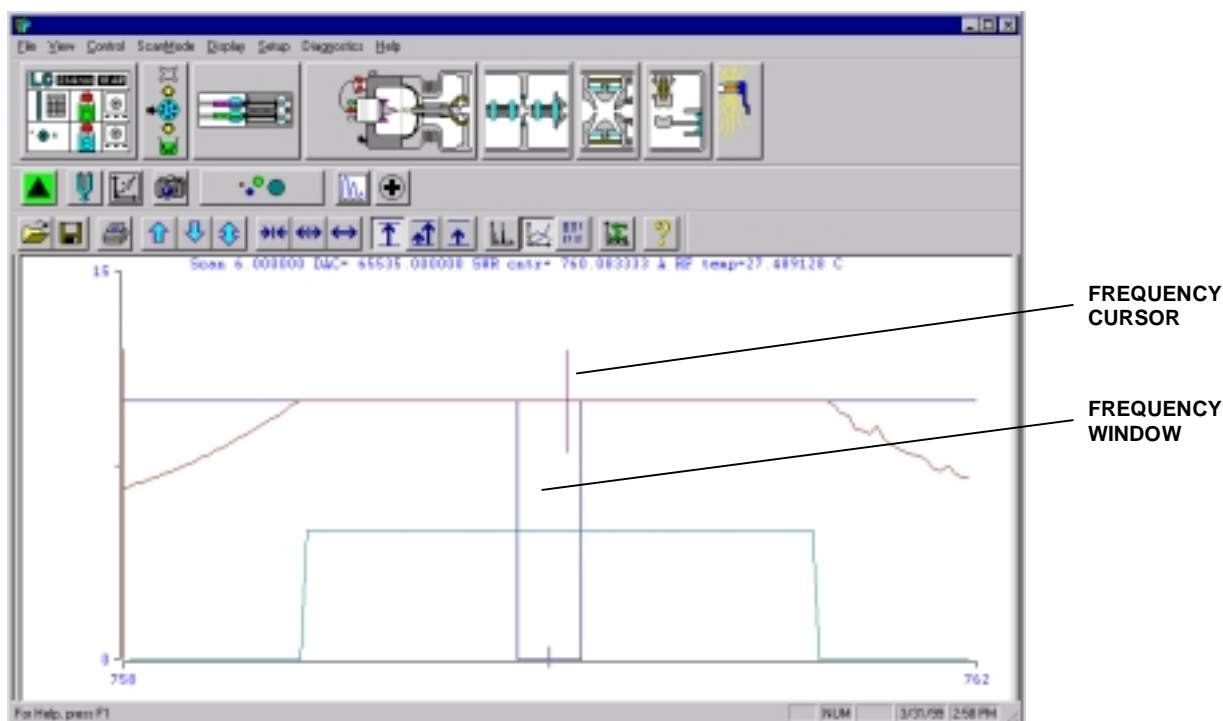

Figure 5-7. Graph view for ring electrode RF voltage tuning
- b. Start the ring electrode RF frequency tune program. The Graph view displays several tune functions, a frequency cursor, and a frequency window. See Figure 5-7.